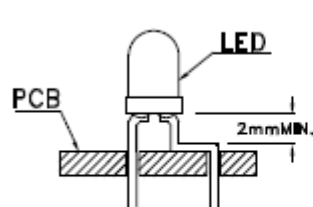
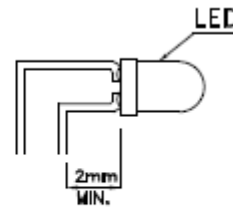

Fig. 5
Fig. 6
1. Maintain a minimum of 2mm clearance between the base of the LED and the first lead bend (Fig.5 and Fig.6)